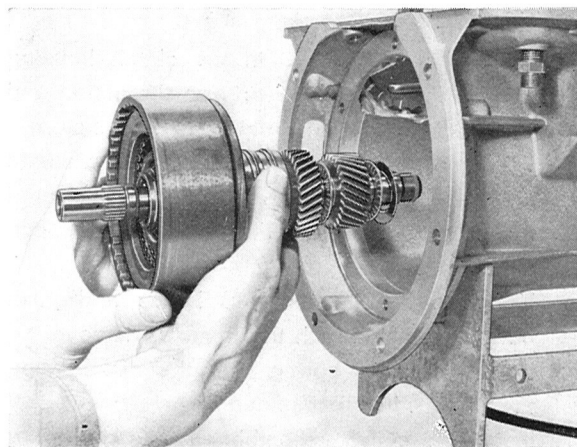

Fig. 4-118. Rear clutch and forward sun gear group installation
15. Install the rear needle thrust bearing and install the clutch in the transmission as shown in Fig. 4-118.